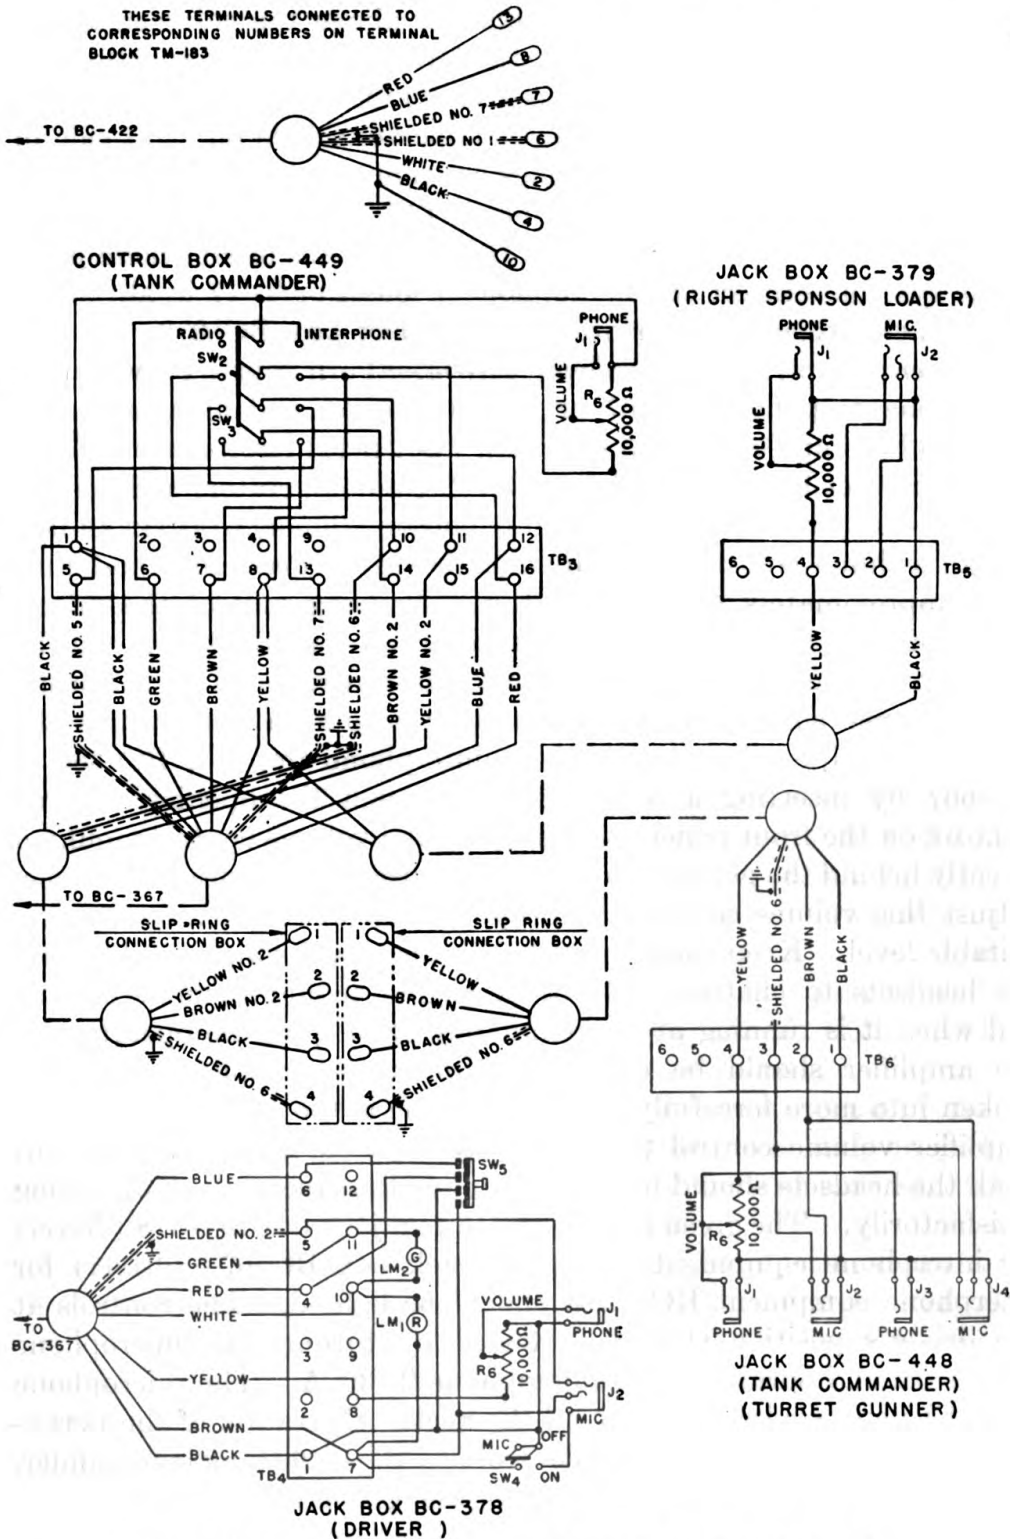

FIGURE 10.—Interphone equipment RC-53-A, wiring diagram—Continued.
*e. Conduit and wiring* (fig. 9 for interphone equipment RC-53 or fig. 10 for RC-53-A).—(1) The conduits are secured along the walls and ceiling with clamps, screws, etc., provided. Before securing ring type clamps in place on roof support post, wrap a few turns of rubber tape on post to provide a tight fit.
(2) Remove the slip ring box cover, under the turret, by removing the two wing nuts. The open end of the conduit of control box BC-449 is connected to the lower hole in the slip ring box panel by means of the coupling nut. The four numbered terminal lugs are connected to the correspondingly numbered studs in the box.
(3) Remove the hydraulic pump motor and the turret junction box cover in the turret by removing the necessary bolts and screws. Insert a steel wire snake through the end of the solid conduit in the turret junction box. Pull the four wires at the open end of conduit of jack box BC-448 through solid conduit by means of steel wire snake. Resolder lugs as follows: yellow to 1, brown to 2, black to 3, and shield to 4, and connect to correspondingly numbered studs in turret junction box. Terminate the shield of the shielded lead in an eyelet inside the solid conduit and run an insulated ground lead from the shield to ground. Couple the braided conduit to the solid conduit by means of the coupling nut.
(4) Connect the conduit from control box BC-422 to the upper left knock-out hole of the car terminal box by means of the coupling nut. Connect the seven wires with terminal lugs to the correspondingly numbered studs of terminal block TM-183.
(5) When radio set SCR-508-( ), SCR-528-( ), or SCR-538-( ) is used, connect cord CO-279 between radio set and car terminal box. Insert punch-terminal end through front right hole in radio mounting base and connect other end through upper right knock-out hole by means of box connector. Connect terminal lugs to correspondingly numbered studs and clamp the cable in the radio mounting base (al-